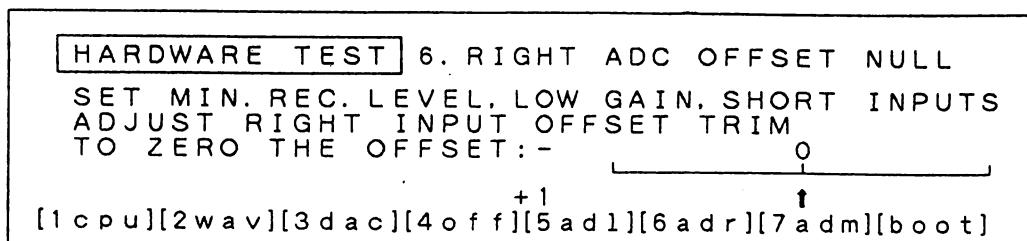

Fig. 4-16
- 4) Next, press the "F6/F" button. The following menu will appear on the LC-display(refer to Fig. 4-16).